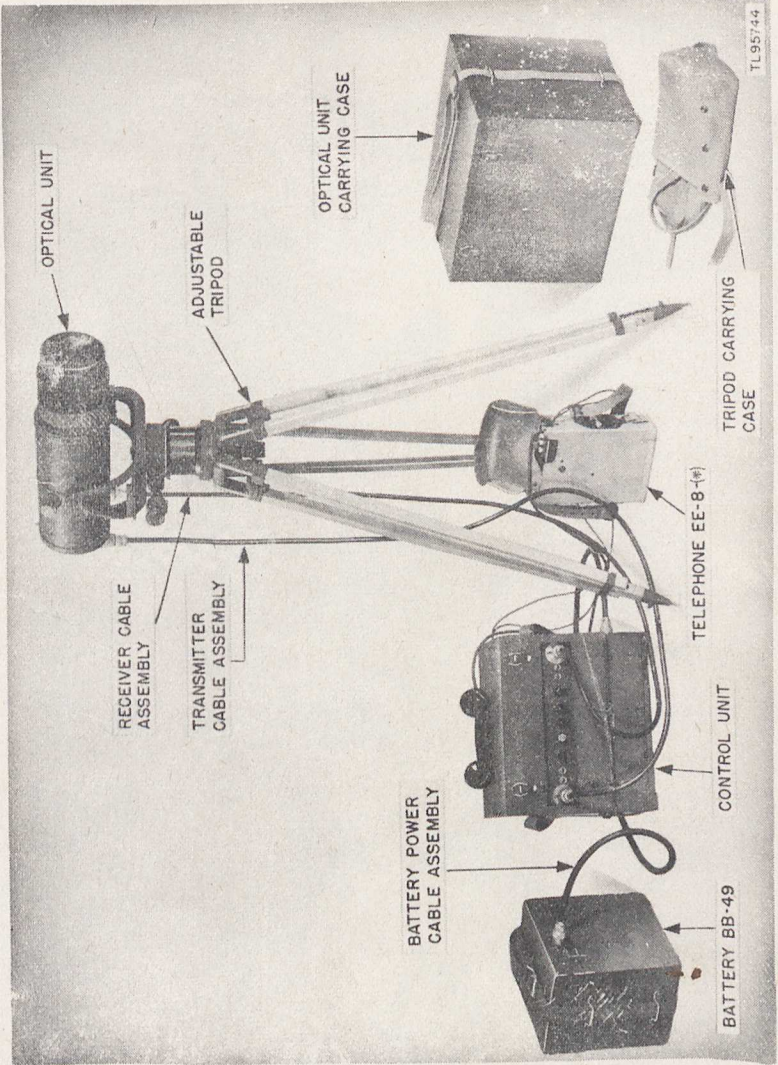

Figure 2. Optiphone AN/TVC-1 (XC-1),
Optiphone AN/TVC-1 (XO-1) is an equipment designed to provide single-channel, two-way, break-in speech communication over a narrow beam of white or dark-red light. The equipment consists of an optical unit, control unit, 6-volt storage battery, Telephone EE-8-(*), and accessories (fig. 2). The complete unit weighs approximately 145 pounds.
b. Tripod Case (fig. 2). The case consists of two cup-shaped pieces of canvas webbing fastened together by web straps. Snap fasteners along the edge of each piece provide a means of fastening the case around the tripod. A metal grommet in the bottom piece fits over the tripod tips.